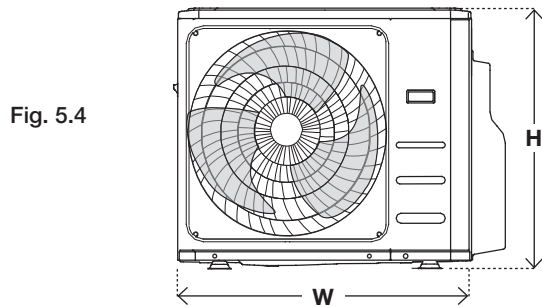
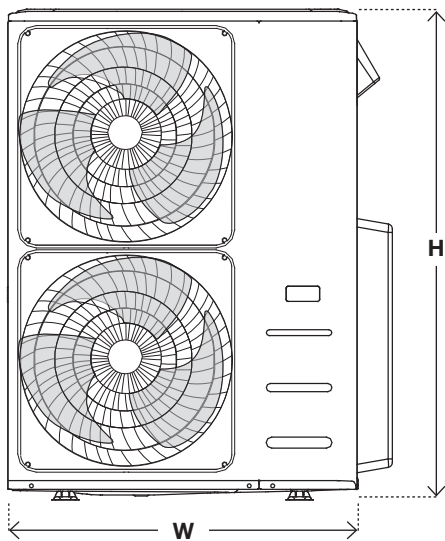
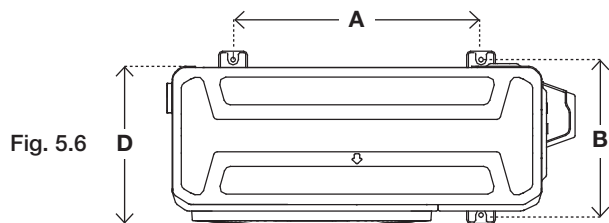
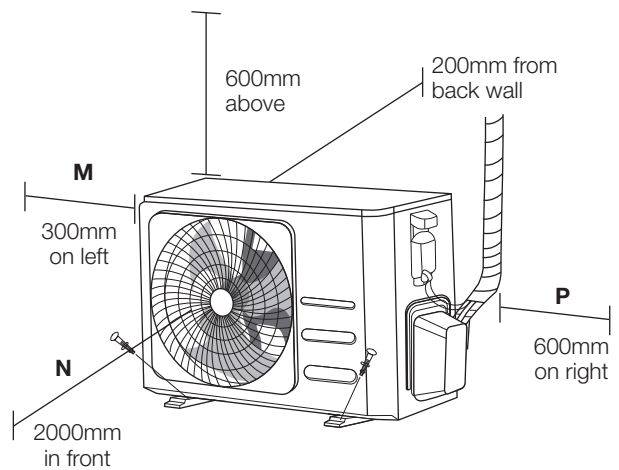

Fig. 5.4
Fig. 5.5
Fig. 5.6
Fig. 5.7
- Make sure you refer to Length specifications (See Fig. 5.7) to ensure there is enough room for installation and maintenance.
(Refer to Fig. 5.4, Fig. 5.5, Fig. 5.6, Fig. 5.7 and Table 5.1)
NOTE: The minimum distance between the outdoor unit and walls described in the installation guide does not apply to airtight rooms. Be sure to keep the unit unobstructed in at least two of the three directions (M, N, P). (See Fig. 5.7)